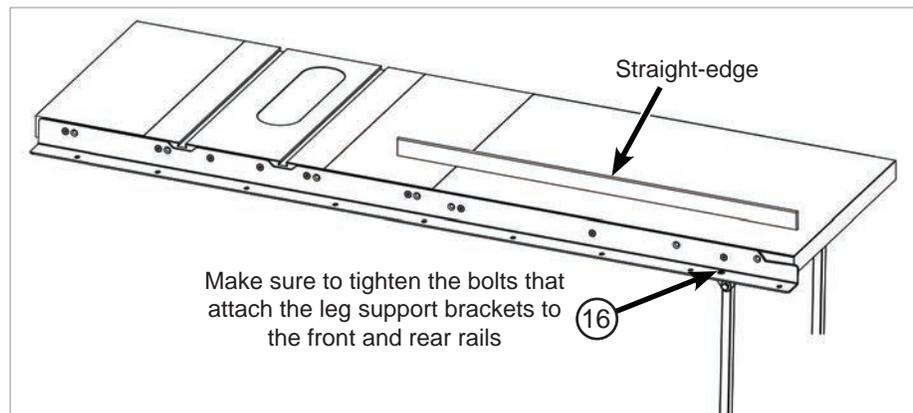

Fig. 24
14. Use a straight-edge to level the front edge of the extension table to the saw table (**See Fig. 24**). You may have to pull up or push down on the extension table to level it. Once the front edge of the extension table is level, use a 5 mm hex key and a 13 mm wrench to fully tighten the nuts on the bolts along the front rail. Repeat the process to level the rear edge of the extension table. Also fully tighten the bolts that attach the leg support brackets to the front and rear rails (bolts ⑯ in step 8).